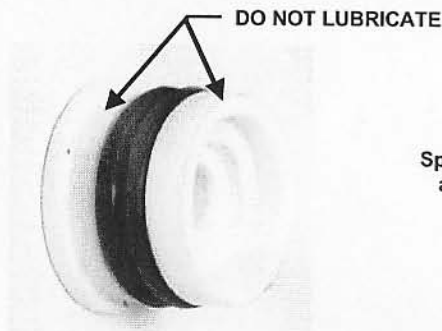

Fig. 30
- e. Install two o-rings onto the shaft bearing - Fig. 30.
Spinner shaft bearing (2) - Fig. 30
BE CERTAIN TO KEEP ALL LUBRICATION AWAY FROM THE TWO O-RINGS BETWEEN THE ARROWS IN FIG. 30. THE BEARING MUST BE "DRY" INSERTED INTO THE MIXING BLOCK OR THE BEARING MAY SPIN IN THE MIXING BLOCK.